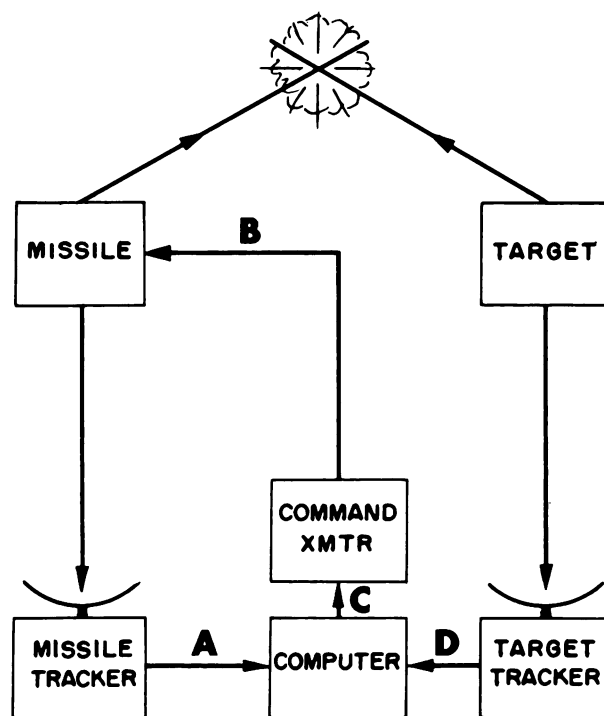

Figure 3K.—Command system.
57. The arrows in the command system shown in figure 3K indicate the flow of information and command signals as well as the motion of the missile and the target. Which of the connecting arrows make up the information link of the system?
58. The command link of the system shown in figure 3K is composed of which of the connecting arrows?